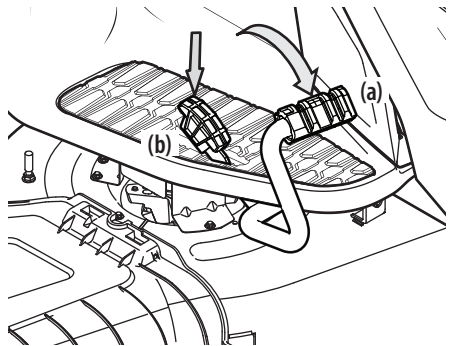

Figure 26
2. To travel FORWARD, slowly depress the forward drive pedal (a) forward until the desired speed is achieved. See Figure 26.
3. To travel in REVERSE, check that the area behind is clear then slowly depress the reverse drive pedal (b) until the desired speed is achieved. See Figure 26.